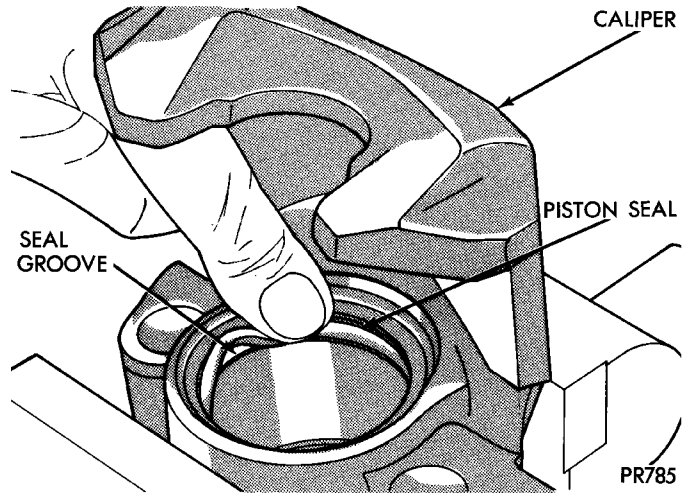

Fig. 178 Installing New Piston Seal In Caliper
(1) Clamp caliper in a vise (with protective caps installed on jaws of vise).
(2) Dip new piston seal in clean brake fluid and install in the groove of the caliper bore. Seal should be positioned at one area in groove and gently worked around the groove (Fig. 178), using only your fingers until properly seated. **NEVER USE AN OLD PISTON SEAL.** Be sure that fingers are clean and seal is not twisted or rolled (Fig. 178).
(3) Coat new piston boot with clean brake fluid leaving a generous amount inside boot.
(4) Position dust boot over piston after coating with brake fluid.